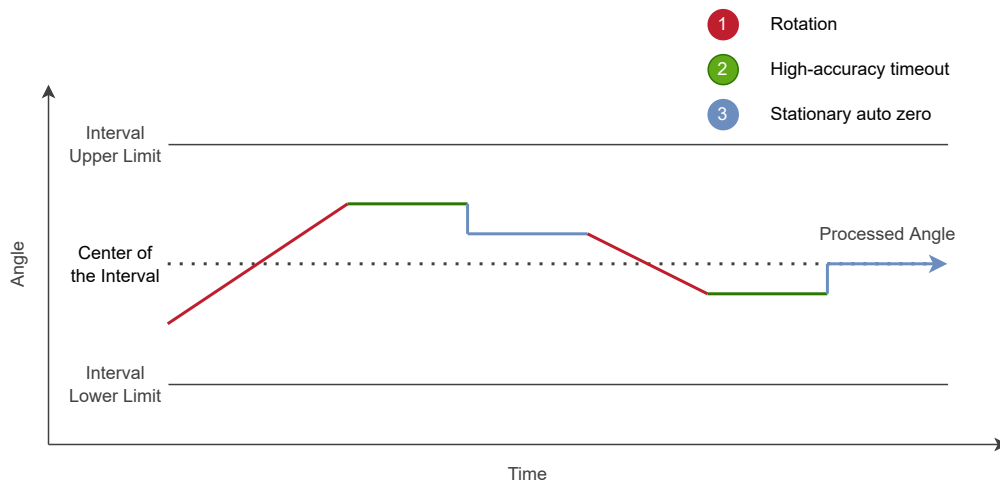

Figure 5.4: Stationary Auto-zero Behaviour
- > **Stationary:** An auto-zero event will occur when the high-accuracy timeout event occurs. A single adjustment is made to the absolute angle offset each time the device exits high-accuracy mode. The auto-zero beta parameter defines the size of the adjustment, with an auto-zero beta value of 0 resulting in a jump to the exact center of the interval. This behaviour can be viewed in Figure 5.4.